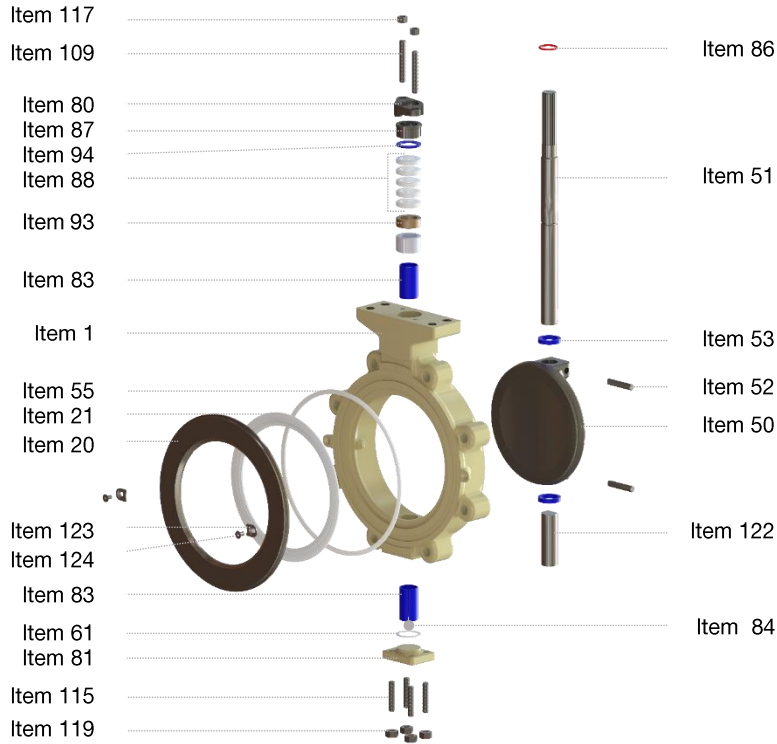

Figure 2: Exploded view of lug style valve
7. Slide the packing spacer, lower packing (if applicable), packing spacer, upper packing and the follower spacer over actuator end of the shaft and into the body. Be careful not to damage the packing on the anti-blowout groove. Typical packing configurations are shown in Figures 2 and 3. In the uncompressed state, the packing spacer above the packing should be within 0.12 inch of the opening of the packing bore. This will allow sufficient packing compression without the packing follower interfering with the anti-blowout ring(s).